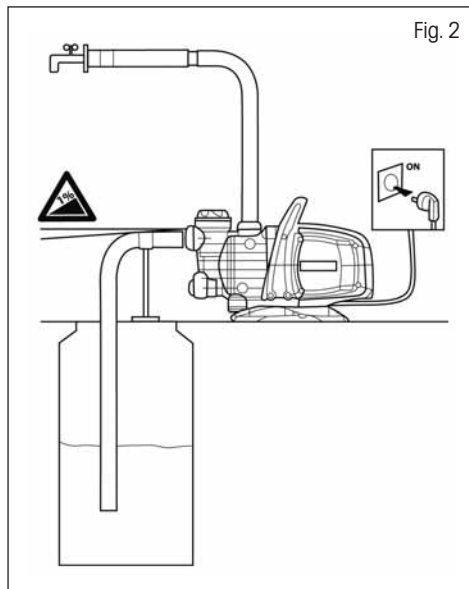

Fig. 2
## Installation (Fig. 2.)
- ✿ We recommend to firmly install the pump. The holes in legs enable to correct the firm base with bolts (the bolts are not included in the package), see Fig. 2.
- ✿ A slight declination of the suction hose in the upward direction of the pump will prevent the creation of air pockets. Fig. 2.